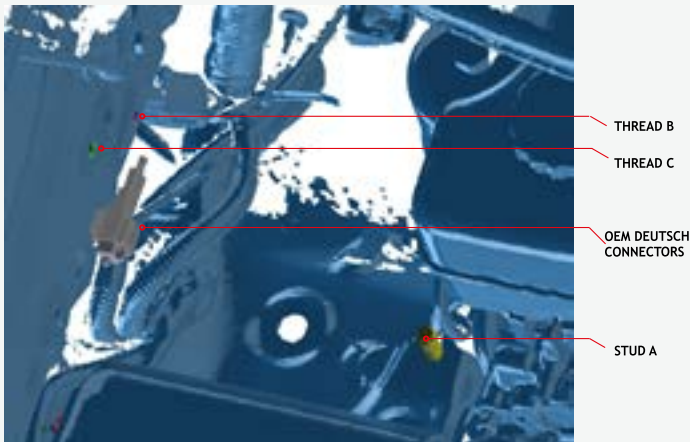

FIGURE 1A
- 2 Starting at the driver's side rear corner of the engine bay, locate Stud A in as shown in FIG. 1A.